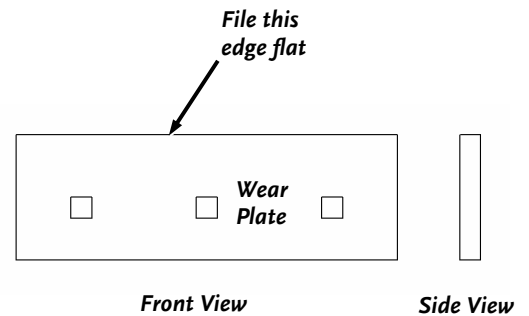

Figure 46
2. File the edge of the Wear Plate to take out any nicks and to square rounded edges (**Figure 46**).